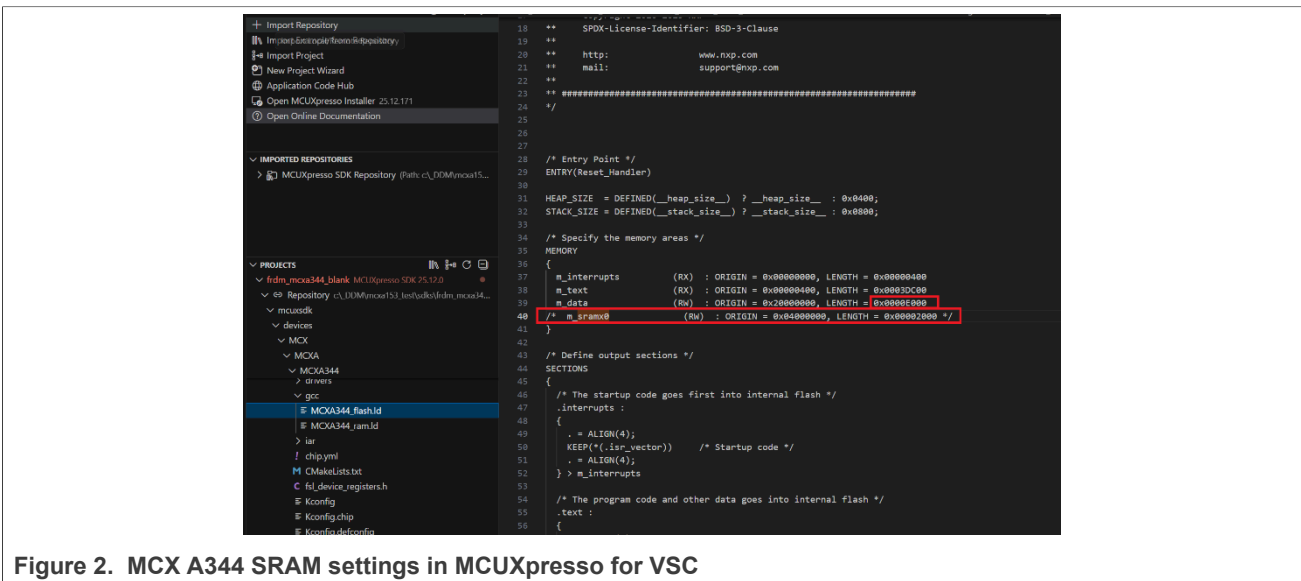

Figure 2. MCX A344 SRAM settings in MCUXpresso for VSC
- For MCX A344, as shown in Figure 2: